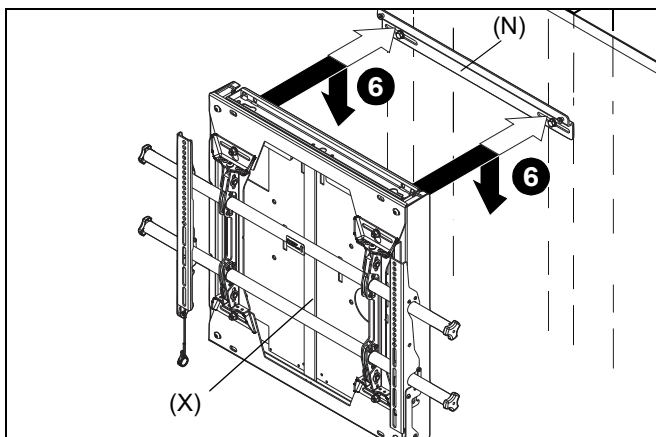

Figure 6
6. Hang wall mount (X) onto top bracket (N) by placing the teardrop mounting holes on mount over thumb nuts on bracket. (See Figure 6)